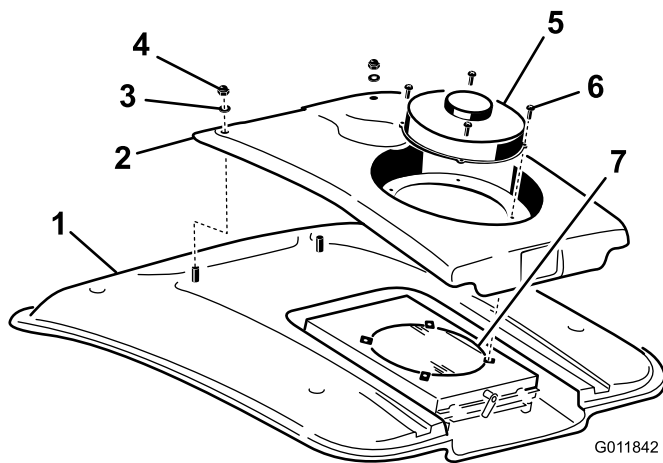

Figure 50
2. Remove the 4 screws securing the fan and the condenser cover to the fan mount (Figure 50).
4. Remove the two nuts and washers securing the front of the condenser cover to the cab roof (Figure 50).
8. Clean the air conditioning condenser thoroughly with compressed air (Figure 50).